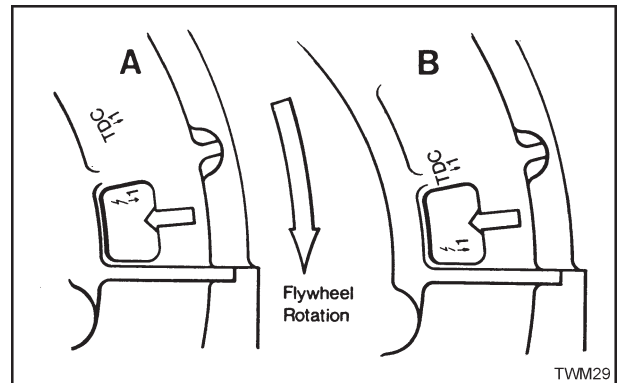

Figure 2.28.2 Flywheel Timing Marks
15. If the flywheel mark is not correct, see 'Figure 2.28.2', the shims under the fuel pump must be adjusted, see "Timing Shims"